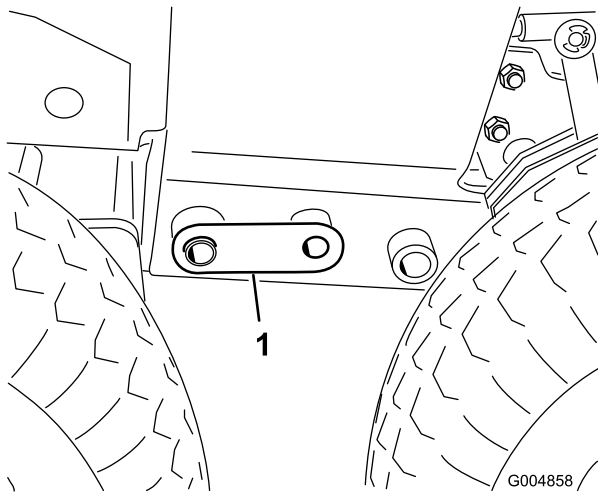

Figure 20
7. Adjust the floor jack to line up the 1.00 inch holes in the frame and install a coupler pin on each side (Figure 20).